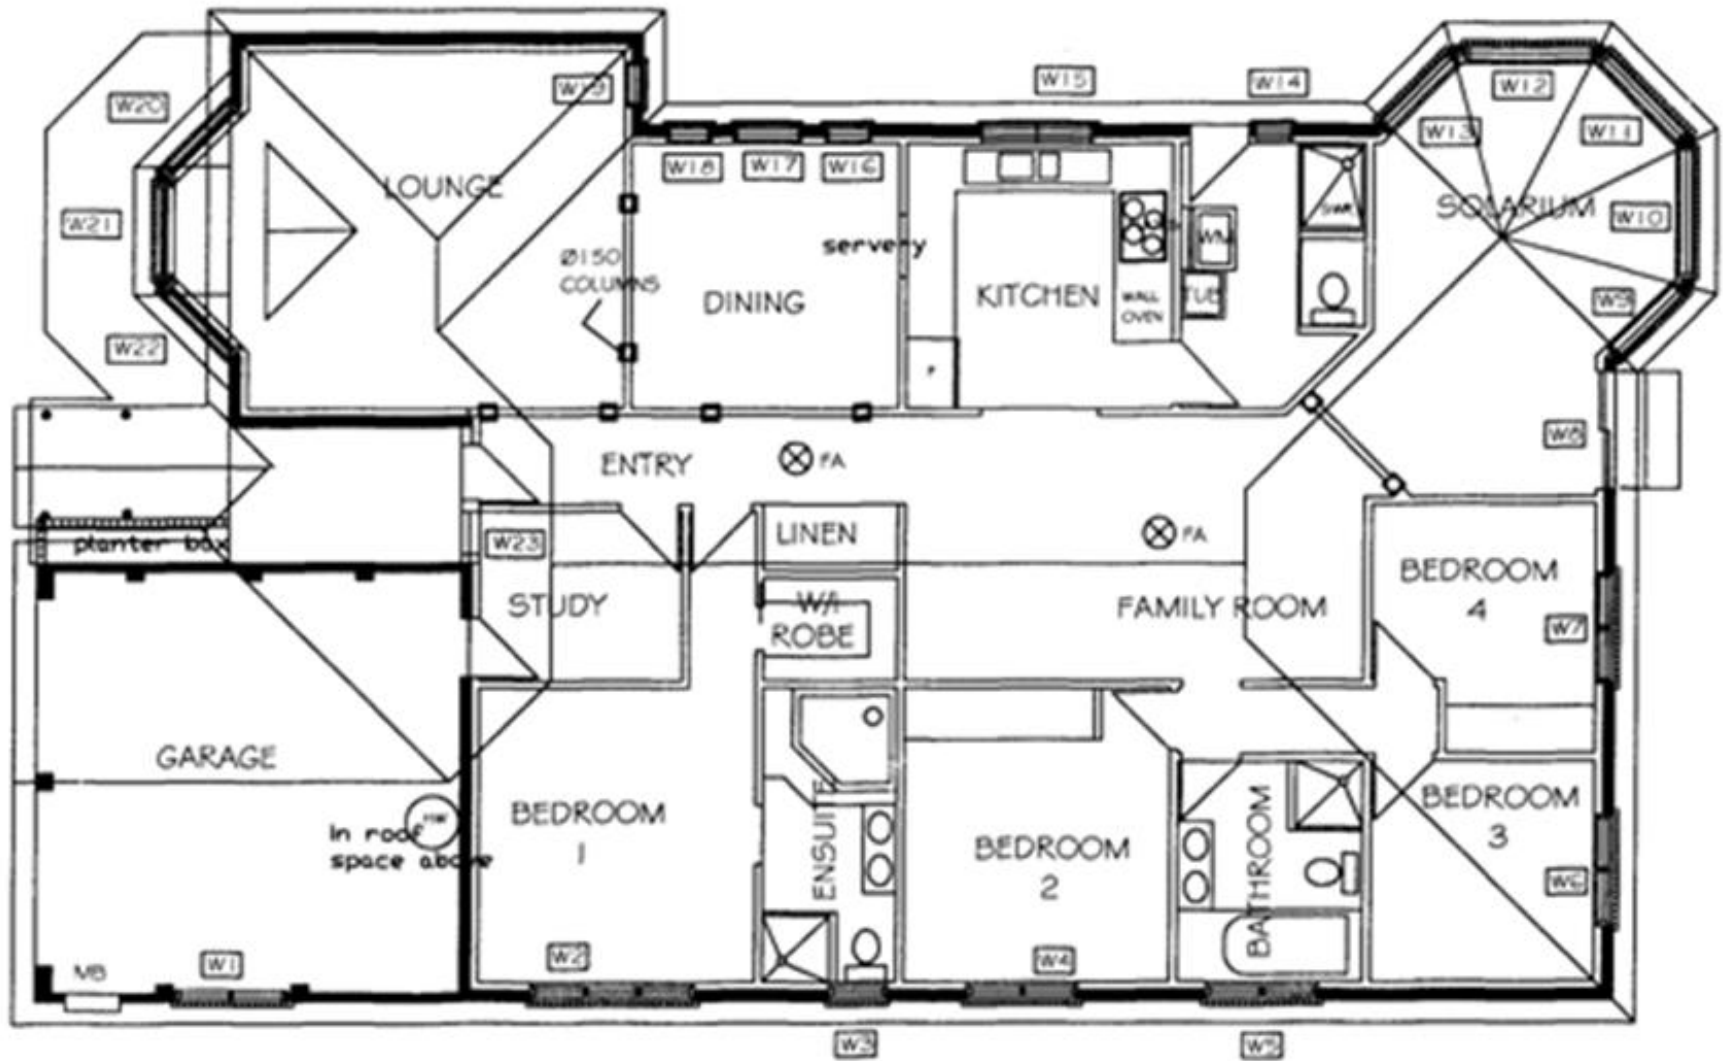

Fig PF-4-1-24 – Floor Plan
- **Floor plans** showing the layout of various rooms within a building. Floor plans are also used to show the location of various building service items such as lighting points, power outlets, switchboards, smoke detectors, plumbing outlets, etc. (See **Fig PF-4-1-24**)